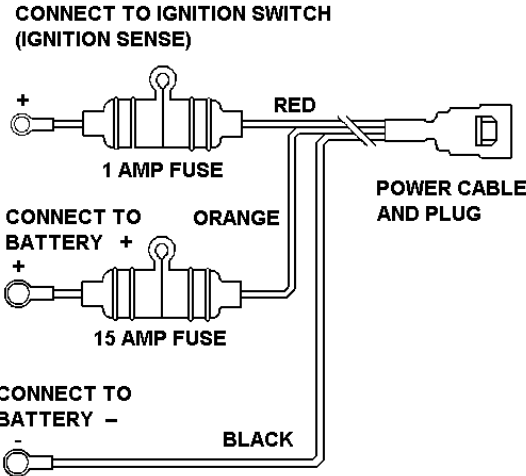

Figure 3 - Power Cable
The power cable consists of a red lead, an orange lead, a black lead, a 3 pin systems plug, and a set of fuses and fuse holders to be installed as indicated in Figure 3.
2. Remove the rubber plug from the option access opening in the rear of the radio adjacent to the power cable. Refer to Figure 3.